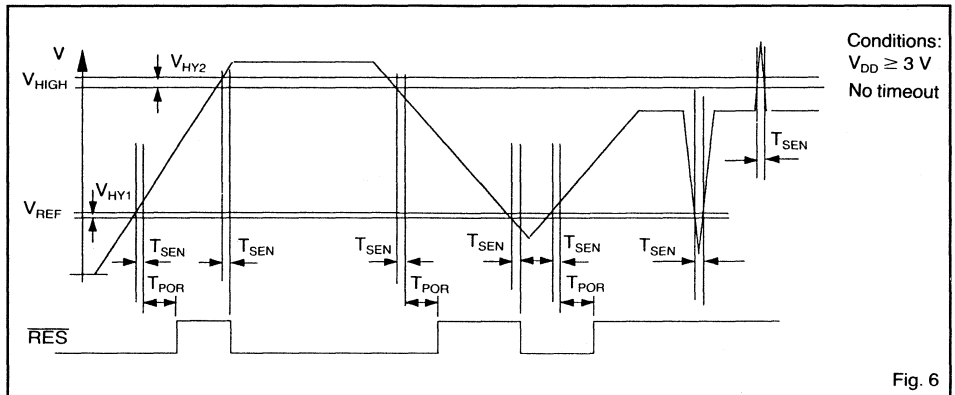

Fig. 6
1) The comparator reference is the power-down reset threshold. The power-on reset threshold equals the comparator reference voltage plus the comparator hysteresis (see Fig. 6).
2) The level detector of  $V_{DD}$  ( $V_{HIGH}$ ) is the level when  $V_{DD}$  is rising. The level detector when  $V_{DD}$  is falling equals  $V_{HIGH}$  minus the hysteresis ( $V_{HY2}$ ) (see Fig. 6).
At power-up the reset output ( $\overline{RES}$ ) is held low (see Fig. 6). When  $V_{IN}$  becomes greater than  $V_{REF}$ , the  $\overline{RES}$  output is held low for an additional power-on reset (POR) delay which is equal to the watchdog time  $T_{WD}$  (typically 100 ms with an external resistor of 115 k $\Omega$  connected at R pin). The POR delay prevents repeated toggling of  $\overline{RES}$  even if  $V_{IN}$  and the INPUT voltage drops out and recovers. The POR delay allows the microprocessor's crystal oscillator to start and stabilize and ensures correct recognition of the reset signal to the microprocessor.
The reset output ( $\overline{RES}$ ) is inactive when  $V_{IN}$  is higher than  $V_{REF}$  and when  $V_{DD}$  is lower than  $V_{HIGH}$ . If  $V_{IN}$  is less than  $V_{REF}$  or  $V_{DD}$  higher than  $V_{HIGH}$ , the reset output goes active low (see Fig. 6).